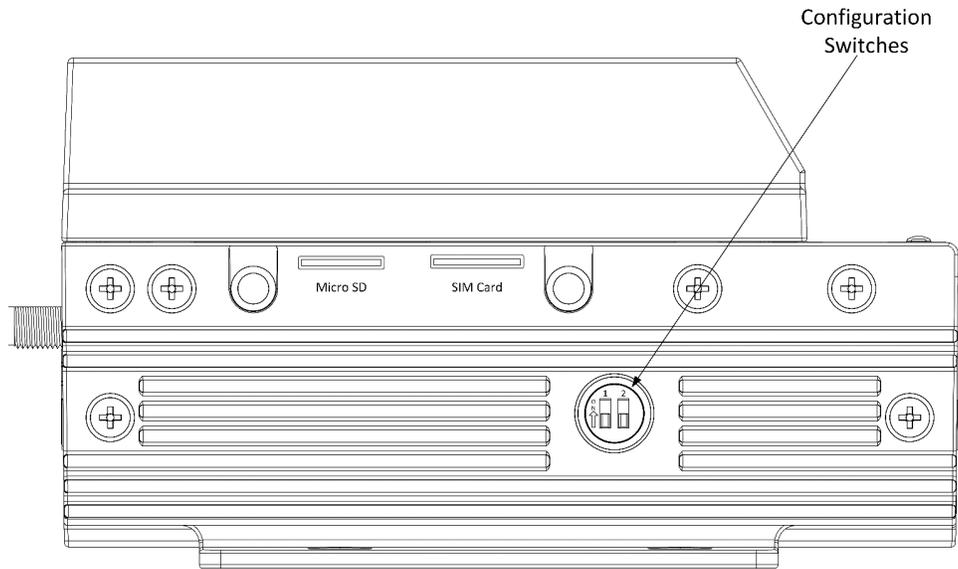

Figure 1.2—Configuration Switches for Enabling Protected Mode (Cover Removed)
1. Remove the small round plug from the left side panel. Note the switch location shown in Figure 1.2, page 16.